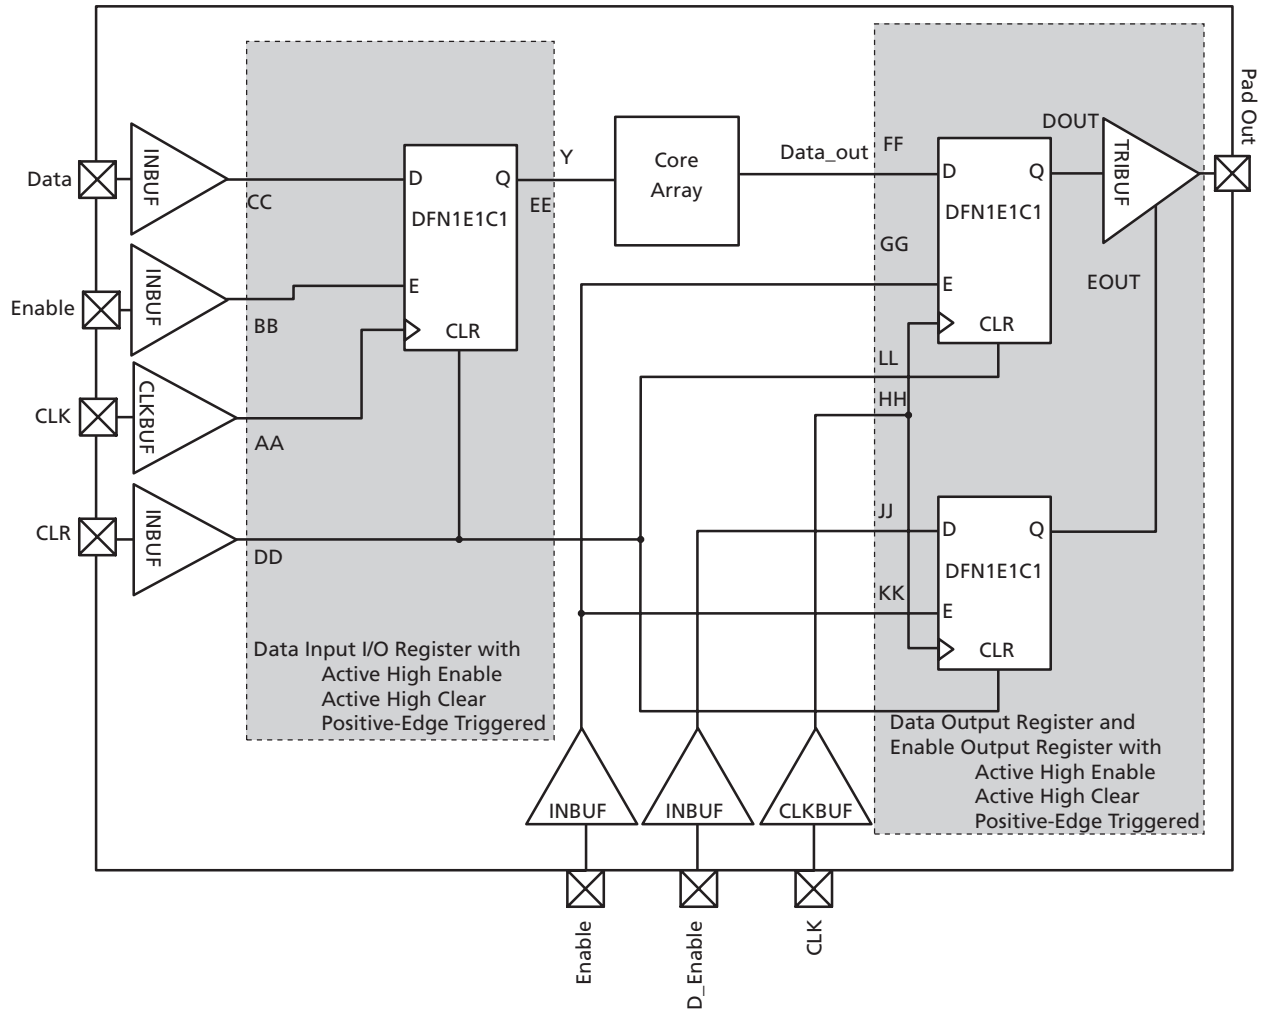

Figure 2-28 • Timing Model of the Registered I/O Buffers with Synchronous Enable and Asynchronous Clear
* See Figure 2-28 on page 2-63 for more information.